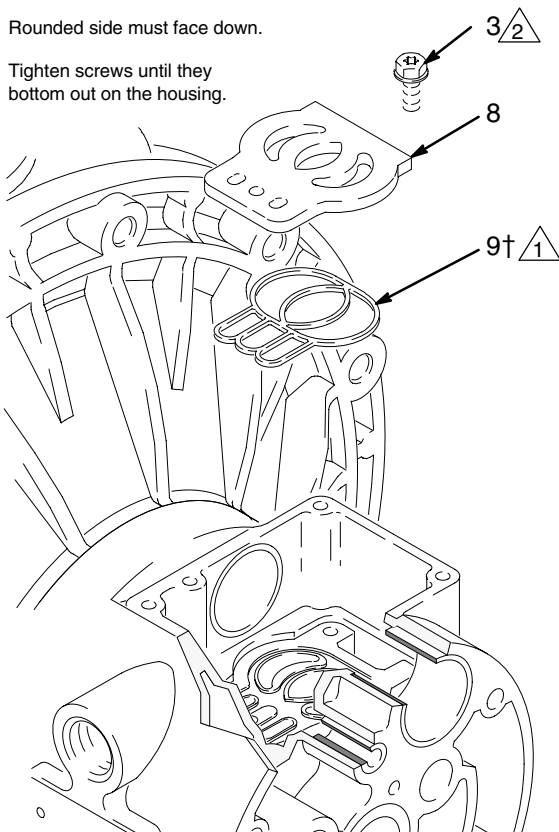

Fig. 10
5. Inspect the valve plate (8) in place. If damaged, use a Torx (T20) screwdriver or 7 mm socket wrench to remove the three screws (3). Remove the valve plate (8) and, on aluminum center housing models, remove the seal (9). See Fig. 10.
2. On aluminum center housing models, install the valve plate seal (9†) into the groove at the bottom of the valve cavity. The rounded side of the seal **must face down** into the groove. See Fig. 10.
3. Install the valve plate (8) in the cavity. On aluminum center housing models, the plate is reversible, so either side can face up. Install the three screws (3), using a Torx (T20) screwdriver or 7 mm socket wrench. Tighten until the screws bottom out on the housing. See Fig. 10.